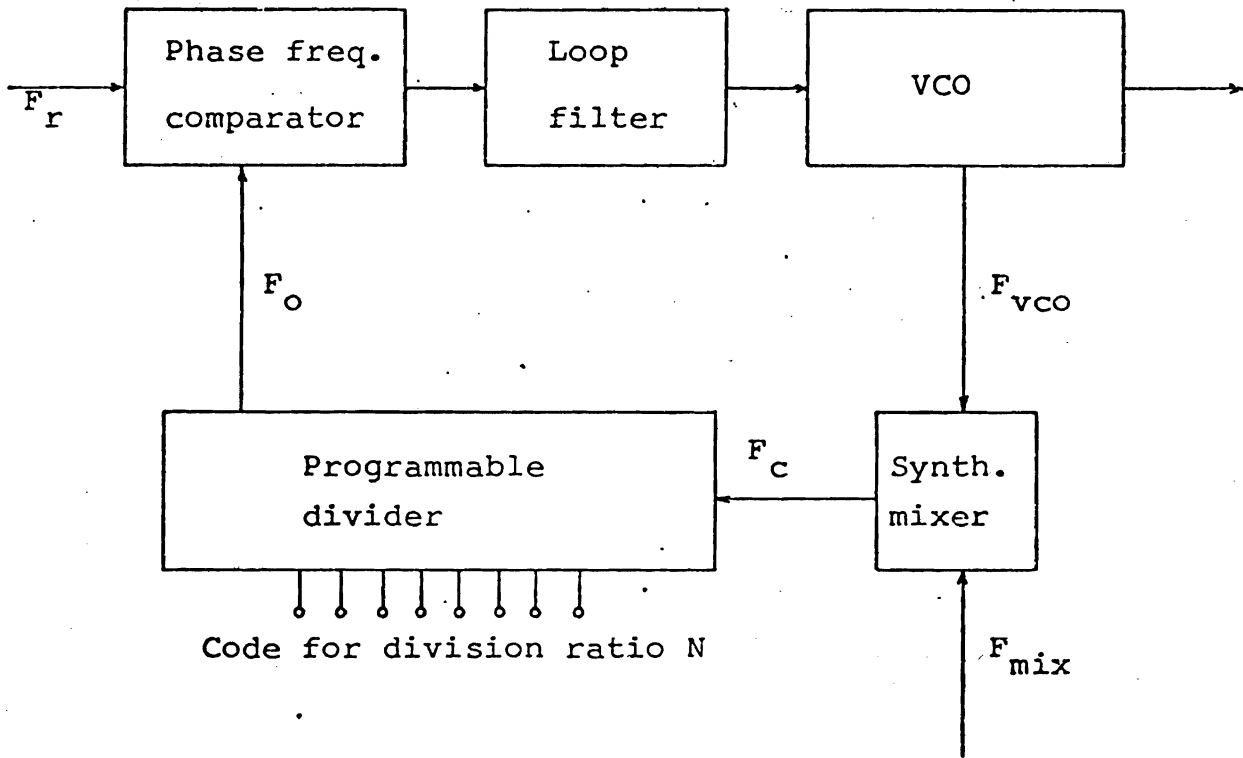

Fig. 3 Synthesizer loop
A multichannel synthesizer (Fig.3)
To build a multichannel synthesizer we have to add some more components (Fig. 3) but the basic function is the same. Here the VCO frequency is converted to a lower frequency F_c suitable for the digital divider. $F_c = F_{vco} - F_{mix}$ (1). When the loop is in lock the incoming frequencies F_r and F_o are equal and the phase difference is zero. $F_o = F_r$ (2). The programmable divider divides frequency F_c with a number N , which can be selected by a binary code. $F_c = N \times F_o$ (3).